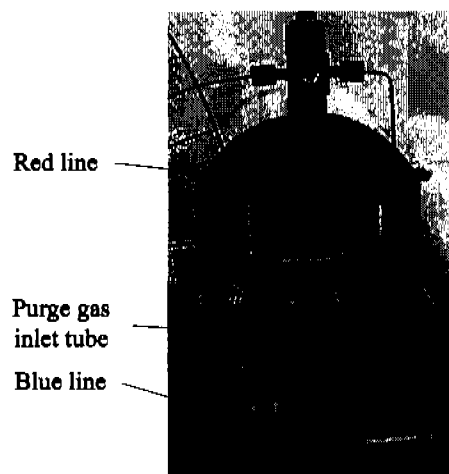

Figure 3.4. Purge gas lines attached to the Eclipse
2. Disconnect the $\frac{1}{16}$ " brass fitting on the purge gas inlet tube at the Eclipse sparge tube. Attach the $\frac{1}{16}$ " brass union (PN 177130, provided in the interface kit) to the $\frac{1}{16}$ " female fitting just disconnected. Attach the blue PEEK line from the Model 4552 to the other end of the $\frac{1}{16}$ " union (Figure 3.4).